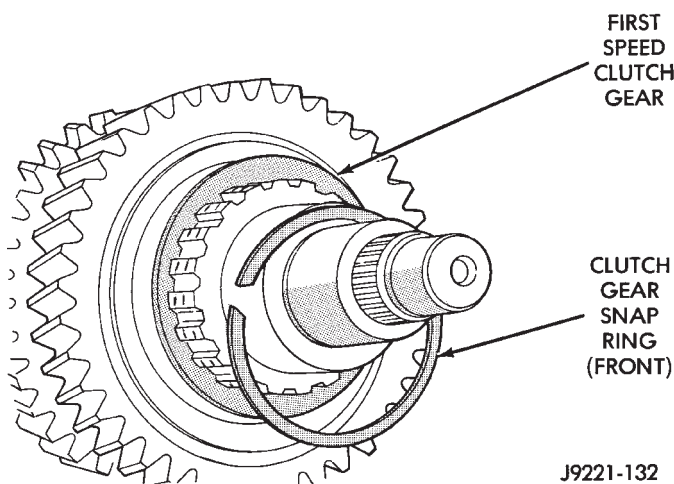

Fig. 71 First Gear Clutch Gear Front Snap Ring Removal
(15) Remove first gear clutch cone front snap ring from mainshaft hub (Fig. 71).